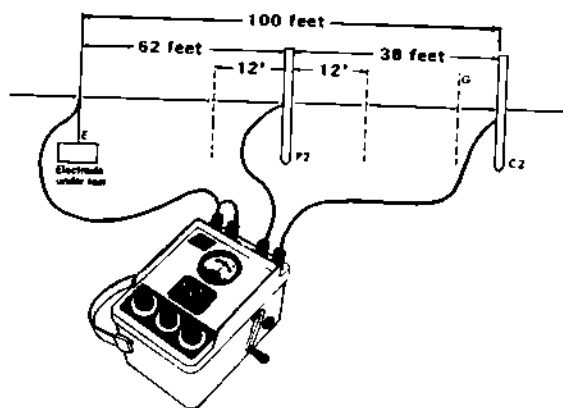

Figure 3-3. Connections for Testing Resistance to Earth of an Earth Electrode.
c. SINGLE RODS AND SMALL GRIDS. For single rods and small grids the current electrode C2 (see Figure 3-3) should be 100 foot from the electrode under test E.
The resistance of the water main may be measured as shown in Figure 3-3.